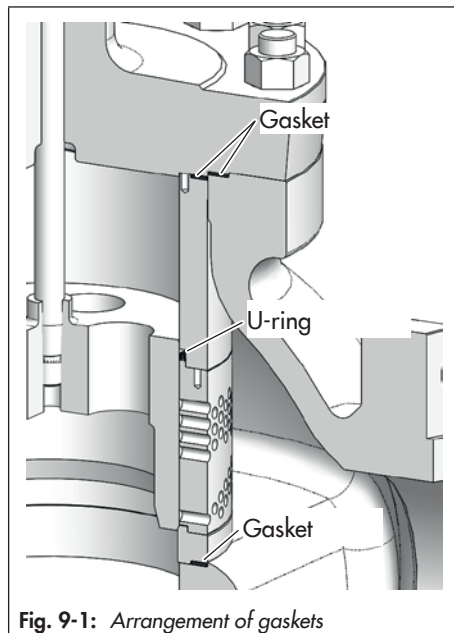

Fig. 9-1: Arrangement of gaskets
2. Insert new gaskets, observing the proper alignment and position/centering of each gasket (see Fig. 9-1).